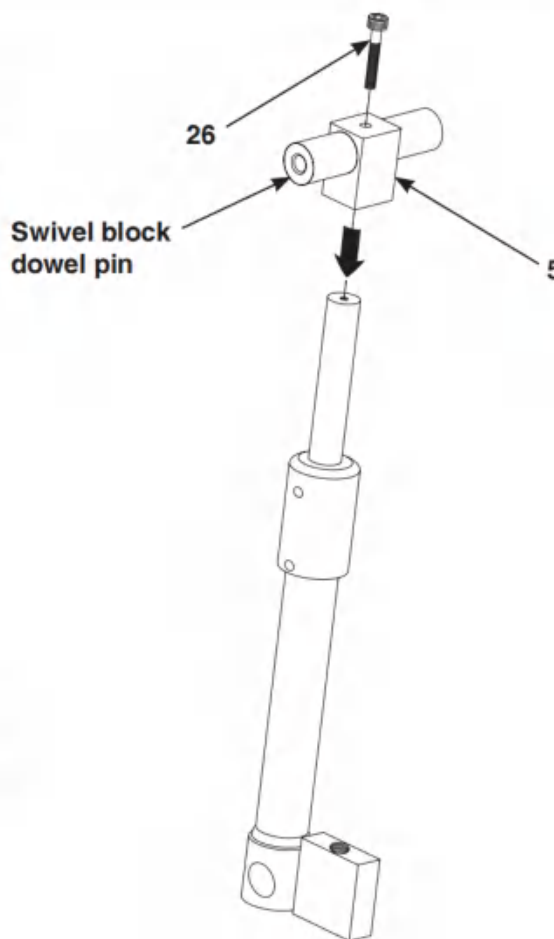

Figure 4
4. Mount the cylinder swivel block (5) to the end of the cylinder using 1-1/2" long, socket head cap screw (26) and torque to 300 - 350 in. lbs. See Figure 4.